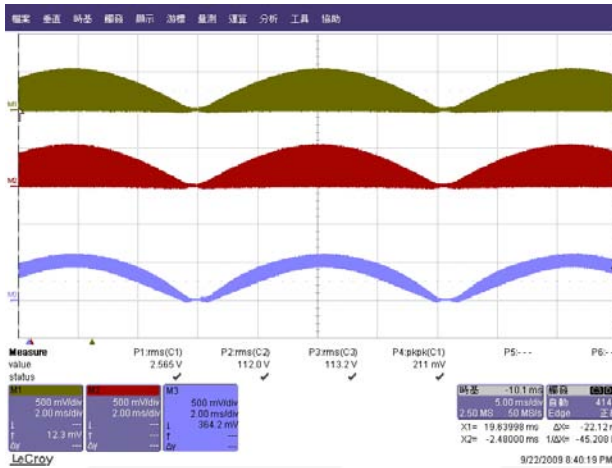
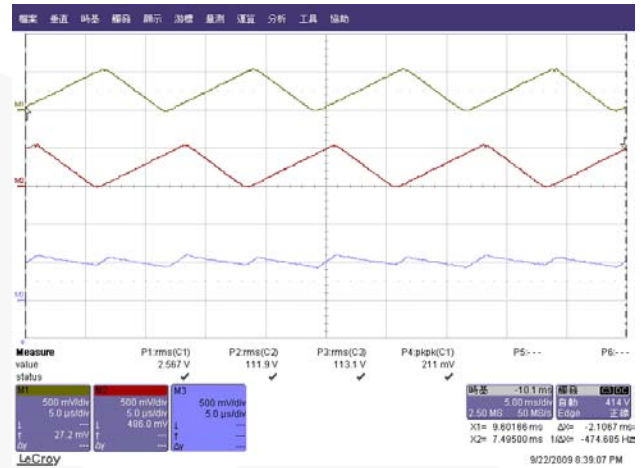

Figure 11. $115V_{AC}$ / 60Hz Full Load
Figure 12. $115V_{AC}$ / 60Hz Full Load
- Figure 11 and Figure 12 show the two inductor currents and the sum of two inductor currents at $115V_{AC}$ line voltage and full-load conditions. The sum of the inductor currents has relatively small ripple due to the ripple cancellation of interleaving operation.